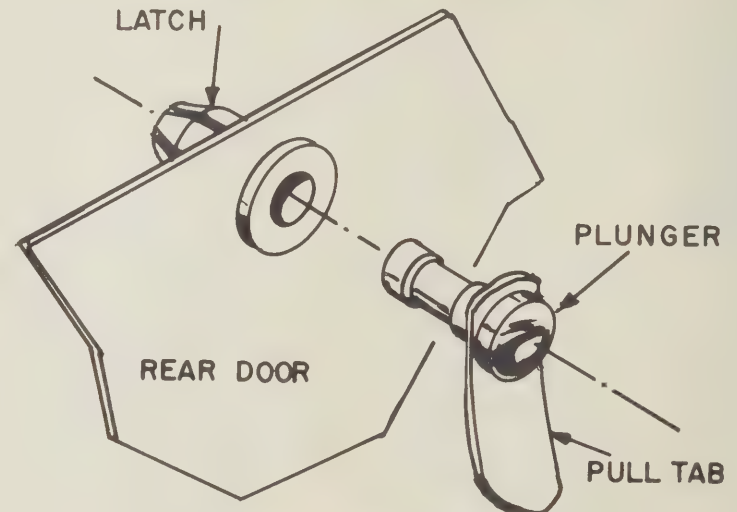

FIGURE 17. LATCH ASSEMBLY
- ☐ Door latch, plunger and plastic pull tab. Mount these parts to the rear door as shown in Figure 17. Be sure to seat the plunger all the way into the latch.